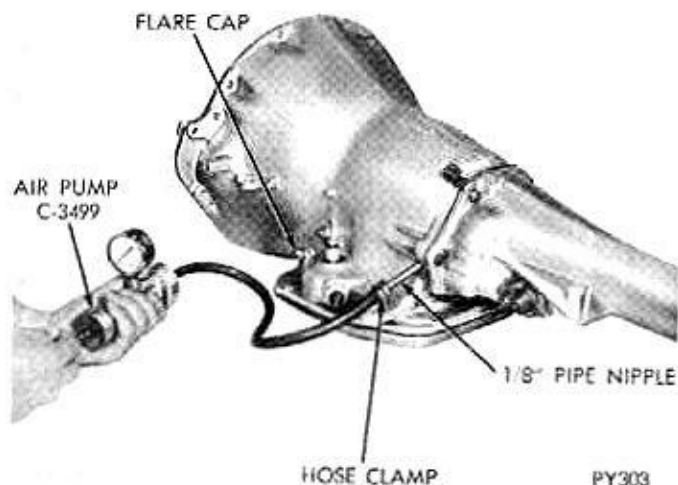

Fig. 5—Pressurizing Transmission
(4) Attach and clamp hose from nozzle of Tool C-3499 to pipe nipple, which is in rear cooler line fitting position in case (Fig. 5).
(5) Pressurize the transmission using Tool C-3499, until the pressure gage reads 8 psi. Position transmission so that pump housing and case front may be covered with soapy solution or water. Leaks are some-